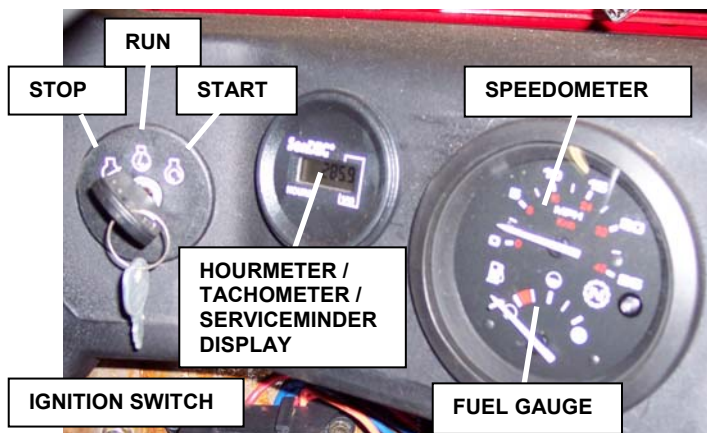

FIGURE 2.6
2.2.10. Ignition Switch. The ignition switch has three positions – Stop, Run, and Start. See Figure 2.6. Turn key and hold momentarily at “Start” position to crank the engine. After starting, release key to “Run” position. Turn key to “Stop” position to stop engine. Turning the key to the “Run” position will enable use of the headlights and the 12 volt accessory plug. However, when using the headlights or accessory plug, the engine should be running to prevent discharging the battery.
2.2.11. Speedometer/Fuel Gauge Combo. Both functions are contained within the one dial. See Figure 2.6. Speedometer measures ground speed of unit. Fuel gauge indicates amount of fuel in tank.
2.2.12. Hourmeter/Tachometer/ServiceMinder Combo. See Figure 2.6. With ignition off, LCD readout displays hours engine used. With engine started, readout displays RPM's. After first seven (7) hours of use, and every forty-nine (49) hours thereafter, the ServiceMinder displays a message indicating oil change is required. The message will be displayed for two (2) hours, and will continue even if oil is changed within the two hour period. After two hours, *whether oil is changed or not*, display will revert back to hourmeter/tachometer function.